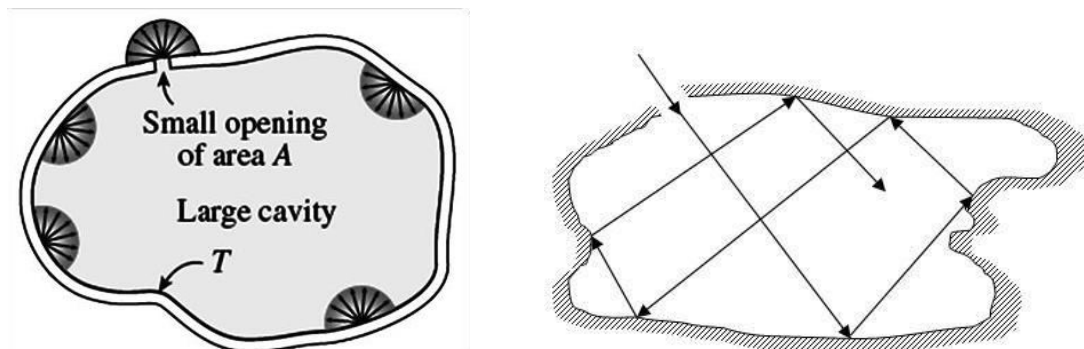

Fig.5.7 Black body concept
- Consider a large cavity with small opening maintained at constant temperature as shown in figure 5.7.